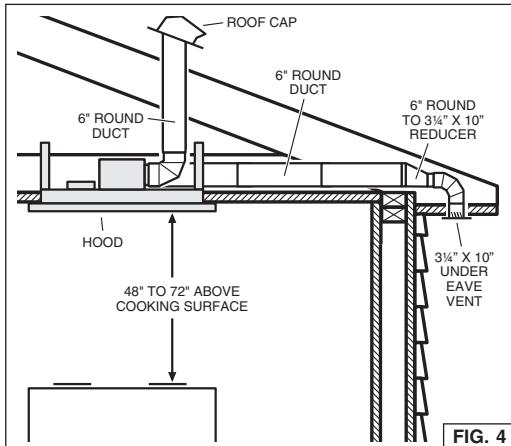

FIG. 4
1. Decide where the ductwork will run between the hood and the outside. Fig. 4.
The hood should always be centered over the cooktop. Make sure there is adequate space in the ceiling structure to install the hood and ductwork. The hood should be mounted 48" to 72" above the cook top for best removal of cooking impurities. Fig 4.